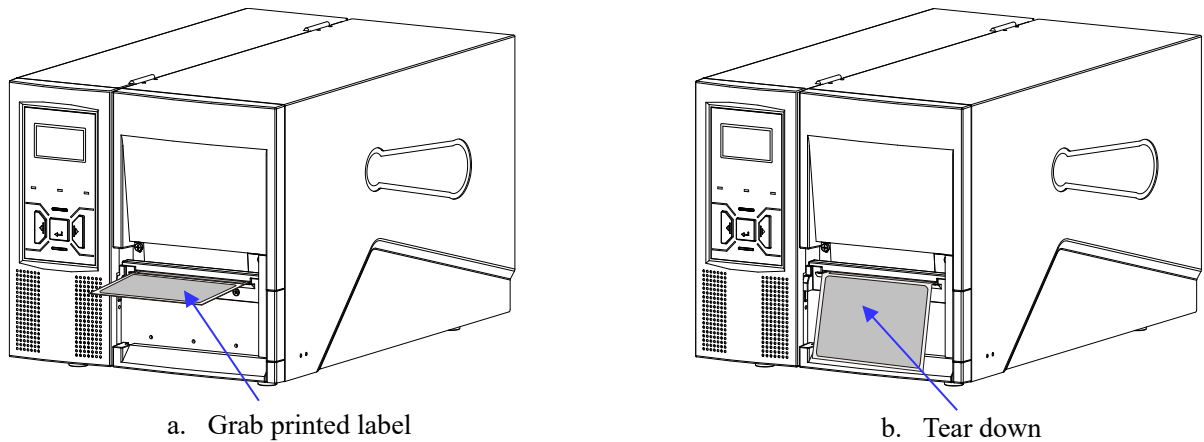

Figure 3-2
2. Follow the directions shown in Figure 3-2 to tear off the label.